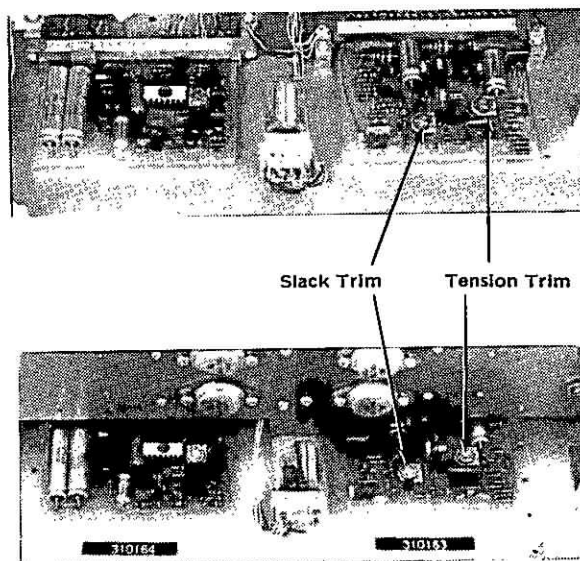

Figure 2-7. Servo and Resolver Boards
- Step 4** Locate the tension trimmer on the SERVO CONTROL BOARD beneath the transport and adjust it for a reading of 10 volts across the power resistor (for 2" tape, 1" tape requires 7 volts). See figure 2-7.
- Step 2** Locate the SLACK control on the SERVO CONTROL BOARD (refer to figure 2-7).